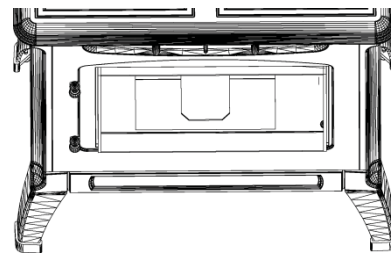

FIGURE 17
- Scrape ash in firebox into the ash bin through the opening in the bottom of the firebox or vacuum to remove ashes (see Figure 17).